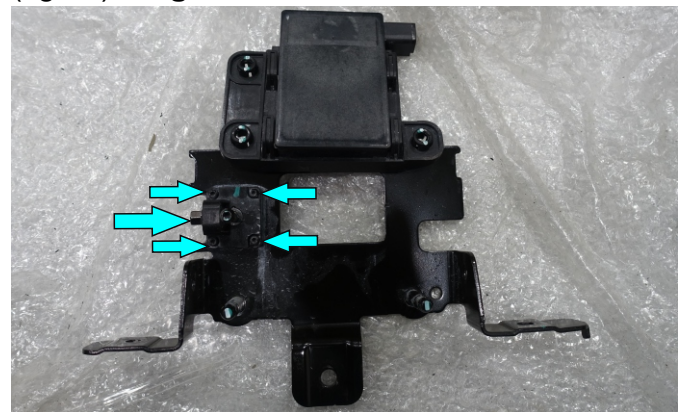

Fig.62
60. Remove radar from factory bracket, and after that the adjusting mechanism (fig.62).